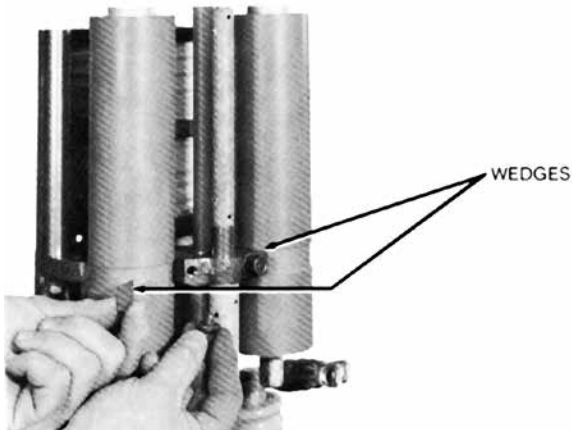

Figure 14. Removing contact tube wedges
- C. Remove the two hex bolts, lockwashers, and flatwashers that secure the two contact wedges to the solenoid frame (Figure 14).
Note: Before removing the two stationary contact assemblies, note that the position of the right-hand contact assembly has the flat side, on its upper terminal, facing outward (Figure 14).